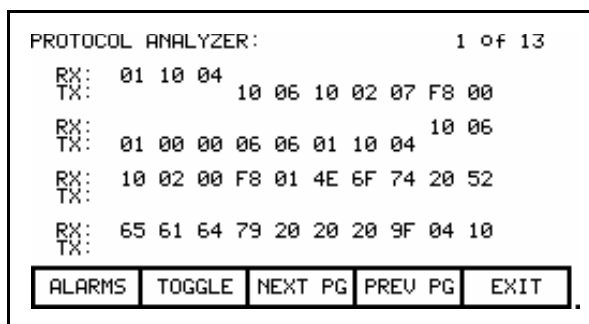

Figure 3.99 – Hexadecimal Displayed
- the data shown in hexadecimal (Figure 3.99)